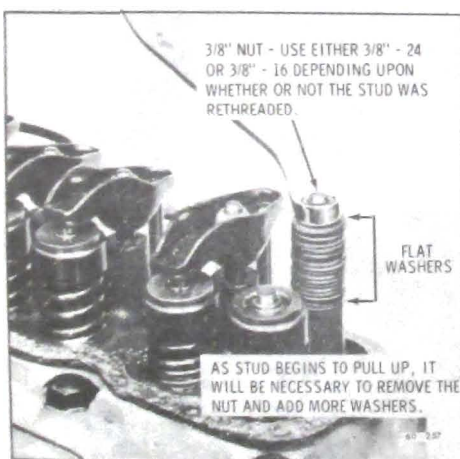

Figure 60-115 - Removing Rocker Arm Stud
3. If rocker arm stud is stripped refer to Figure 60-114 for rethreading and Figure 60-115 for pulling the stud.